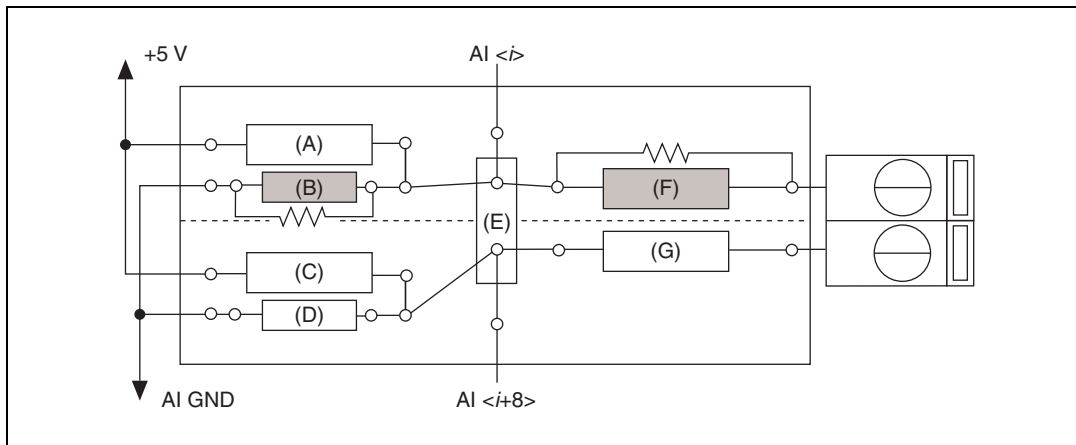

Figure 4-39. SCB-68 Circuit Diagram for Single-Ended Analog Input Attenuation on AI A
- Single-ended analog input attenuators**—To build a two-resistor circuit for attenuating voltages at the single-ended analog inputs of the SCB-68, refer to Figure 4-39. Refer to Table 4-1 for component positions for all analog input channels.